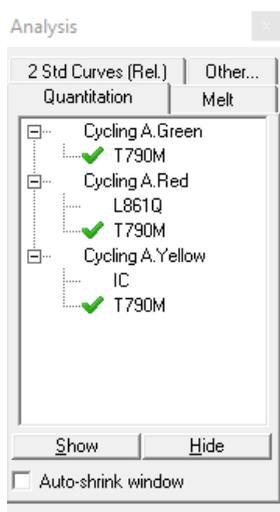

Figure 34. Quantitation tab in the Analysis tool.
27. The Standard Curves are shown in the “Standard Curve” windows for the green and the red channels. View the calculated regression line, slope (M), y-intercept (B), and R^2 values (Figure 34).